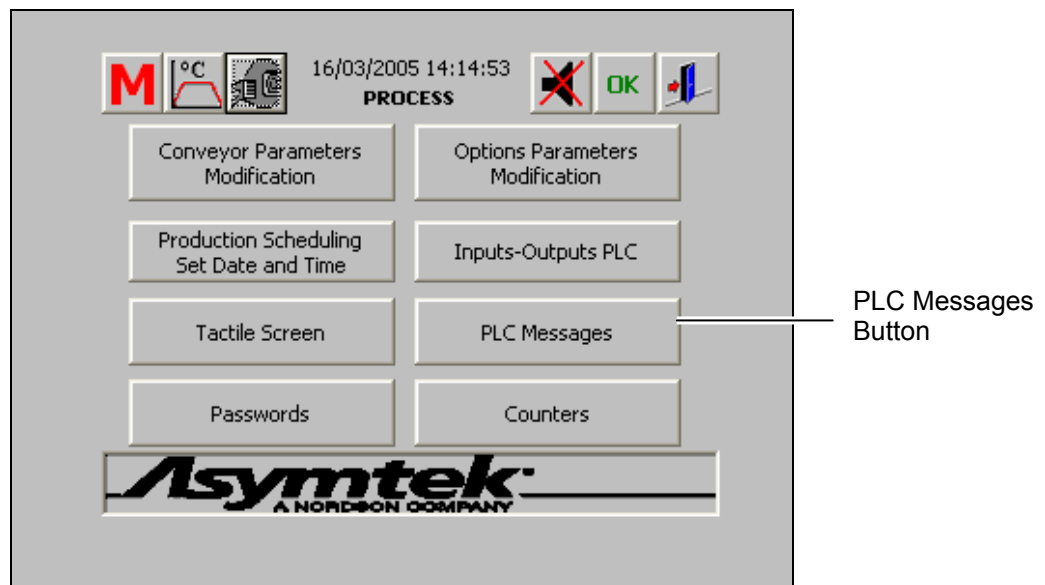

Figure 6-42 Control Menu – PLC Messages
1. To check the messages from the PLC, from the Control Menu select the **PLC Messages** button (Figure 6-42).